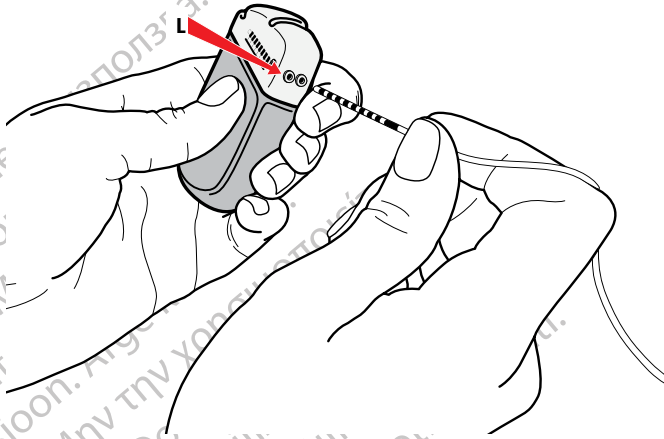

Figure 37. Connection to IPG Port L
- a. Connect the left hemisphere Extension to port L (or C) (Figure 37).